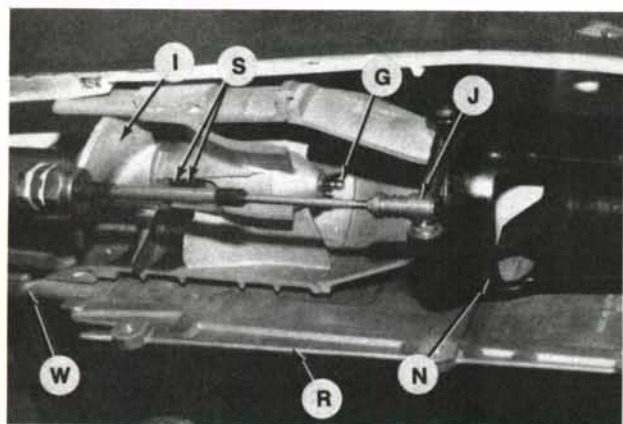

Fig. JS2-51—Cutaway view of jet pump assembly used on JS440 models and related components common to both JS440 and JS550 models.
Remove jet pump water intake grill (W—Fig. JS2-51) and cover (R). Detach steering linkage joint (J) at ball joint on steering nozzle (N). Remove bilge siphon hose and cooling system supply hose from fittings on jet pump housing. Remove four jet pump mounting cap
On JS440 models, remove grease fitting (G—Fig. JS2-51) at rear of jet pump housing. Install impeller on drive shaft and tighten using hand pressure. Do not overtighten impeller. Lightly grease lips of jet pump housing grease seals and rear surface of drive shaft with Shell MP or Alvania EP1 grease.
On JS440 models, thickness of shims located under jet pump housing mounting flanges must be adjusted so clearance (C—Fig. JS2-52) between impeller and impeller housing is at least 0.1 mm (0.004 in.) measured throughout entire impeller circumference. Tighten jet pump housing mounting cap screws, then recheck impeller-to-impeller housing clearance. After recommended clearance is obtained, remove each jet pump housing mounting cap screw and apply Loctite Stud N'Bearing Mount or a suitable equivalent on threads of each screw, then install and tighten to 22 N·m (16 ft.-lbs.). Install grease fitting (G—Fig. JS2-51) and inject Shell MP or Alvania EP1 grease through grease fitting as needed.
R&R AND OVERHAUL. Disconnect battery cables from battery. Remove jet pump water intake grill (W—Fig. JS2-51) and cover (R). Detach steering linkage joint (J) at ball joint on steering nozzle (N). Remove bilge siphon hose and cooling system supply hose from fittings on jet pump housing. Remove four jet pump mounting cap screws (two at front and two at rear). Be careful and use a suitable sharp tool and cut silicone sealer between jet pump intake nozzle and vehicle hull. Slide jet pump assembly off rear of drive shaft. Note shims located under jet pump housing mounting flanges. Label shims for
original locations. Tighten jet pump housing mounting cap screws, then check impeller-to-impeller housing clearance. Clearance (C—Fig. JS2-52) should not exceed 0.87 mm (0.034 in.) measured between impeller and impeller housing throughout entire impeller circumference. Adjust thickness of shims located under jet pump housing mounting flanges if measured clearance is not equal around impeller circumference. If measured clearance is beyond recommended limit, then renew excessively worn or damaged component. After correct setting is obtained, remove each jet pump housing mounting cap screw and apply Loctite Stud N'Bearing Mount or a suitable equivalent on threads of each screw, then install and tighten to 22 N·m (16 ft.-lbs.). Install grease fitting (G—Fig. JS2-51) and inject Shell MP or Alvania EP1 grease through grease fitting as needed. Reconnect bilge siphon hose and cooling system supply hose onto fittings on jet pump. Reattach steering linkage joint (J) onto ball joint on steering nozzle (N). Install jet pump cover (R) and water intake grill (W) and tighten retaining screws to 10 N·m (88 in.-lbs.).
R&R AND OVERHAUL. Disconnect battery cables from battery. Remove jet pump water intake grill (W—Fig. JS2-51) and cover (R). Detach steering linkage joint (J) at ball joint on steering nozzle (N). Remove bilge siphon hose and cool-
tings on jet pump. Reattach steering linkage joint (J—Fig. JS2-51) onto ball joint on steering nozzle (N). Install jet pump cover (R) and water intake grill (W) and tighten retaining screws to 10 N·m (88 in.-lbs.).
ADJUSTMENT. With steering handlebar in straight ahead position, jet pump steering nozzle (N—Fig. JS2-51)
NOTE: If steering linkage joint (T) must be rotated out to where minimal threads on steering cable engage joint (T), then rotate joint (T) onto threaded end of steering cable to obtain safe thread engagement and complete adjustment on joint (J—Fig. JS2-51) at jet pump.